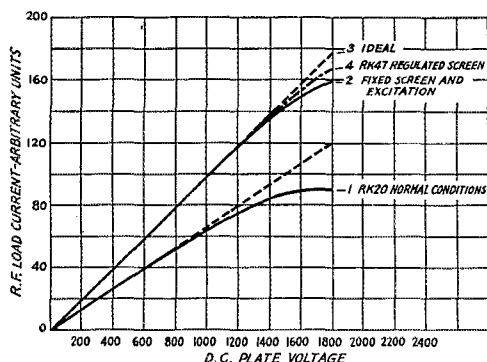

FIG. 2—TYPICAL OPERATING CHARACTERISTICS OF RK-20 AND RK-47 WITH PLATE MODULATION
On this basis it would seem that there should exist some value of plate voltage at which the ordinary pentode could be plate modulated. Curve (1) in Fig. 2 is a plot of the output of a Type